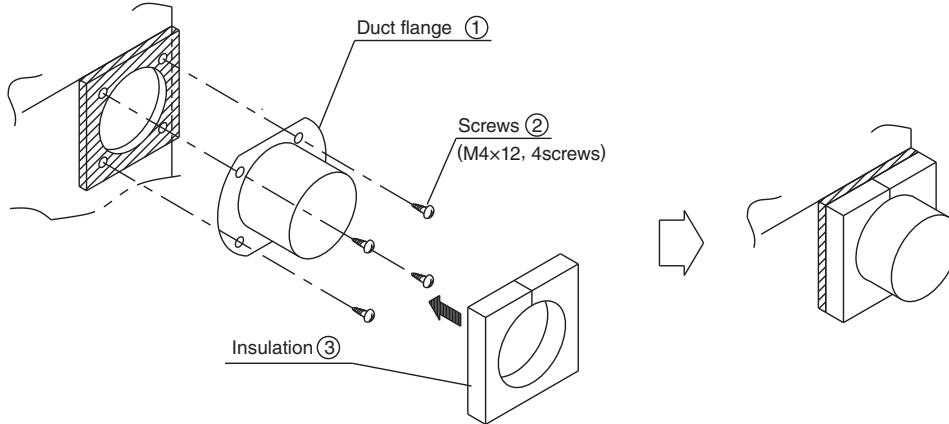

Fig. 3
3. Install the duct flange ① with screws ② (M4x12, 4 screws) to the opening and adhere the insulation ③ (Fig. 3)